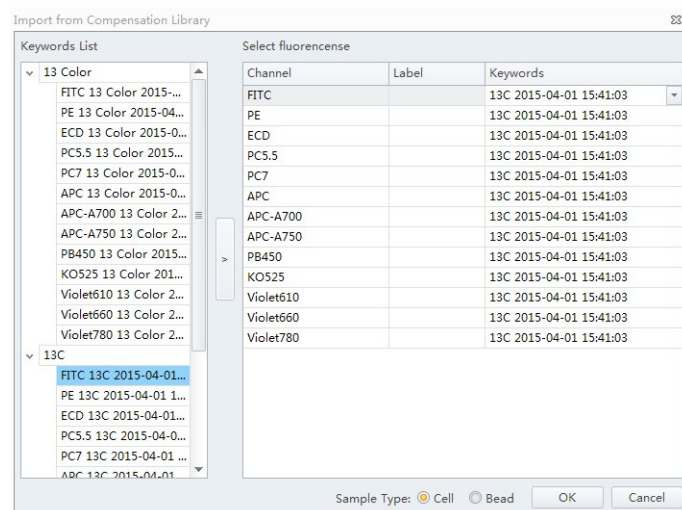

Figure 27. Demonstration of using the keyword finder to locate the appropriate compensation library.
- Choose the appropriate key word (“DuraClone* xxx Lot yyy”), load the single stains and click “OK” (Figure 27).